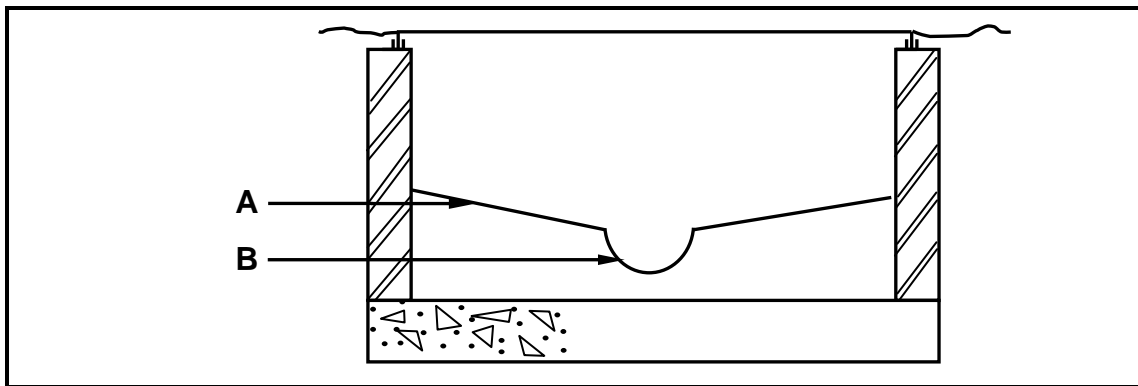

FIGURE 3.1
3.1 FIGURE 3.1 below shows a sectional view of a manhole. Study the drawing and answer the questions that follow.